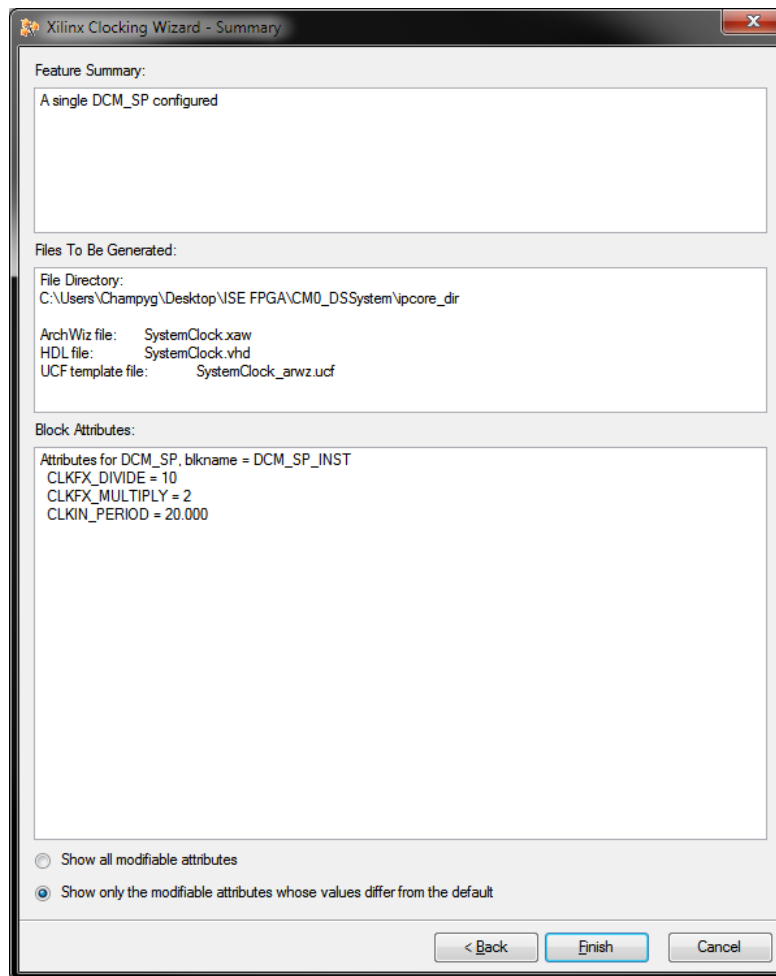

FIGURE 8 - CLOCK FINAL CONFIGURATION
2.6. Click "Next." In the next screen, enter 10 MHz as the output frequency and click "Calculate." Figure 8 below shows the configuration for the clock.